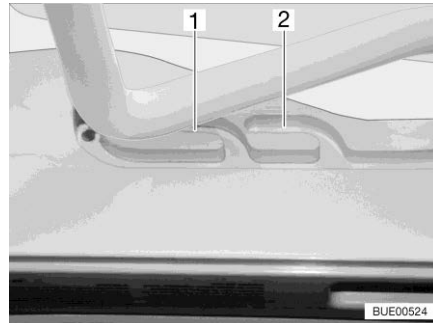
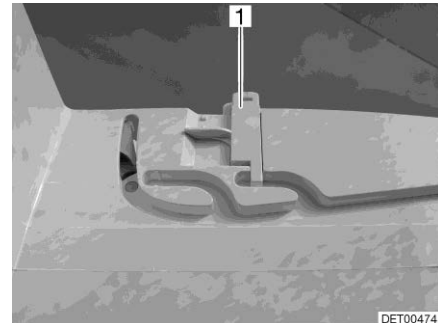

Fig. 110 Guide (ventilation position)
Fig. 111 Lock (ventilation position)
The Heki skylight can be put in two ventilation positions: Bad weather position (Fig. 110,1) and central position (Fig. 110,2). Depending on the model, the skylight can be locked in the central position with both left and right latches (Fig. 111,1) on the skylight frame.
- Push the bar slightly upwards and into the selected guide (Fig. 110,1 or 2) and lock if necessary.